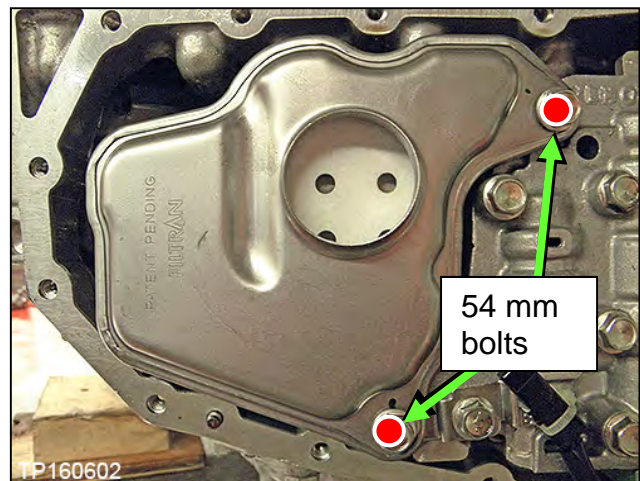

Figure 159
120. Install the new oil strainer with its new O-ring seal with two (2) bolts (Figure 159).